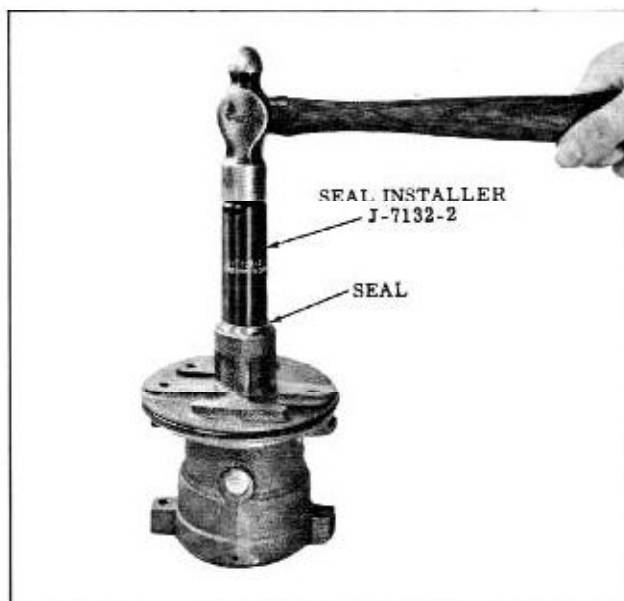

Fig. 4-28 Installing Seal
2. Apply Special Seal Lubricant (Part No. 567196) to the sealing lips of a new drive shaft seal and drive the seal into the pump body using Tool J-7132-2. (Fig. 4-28) Remove tool.